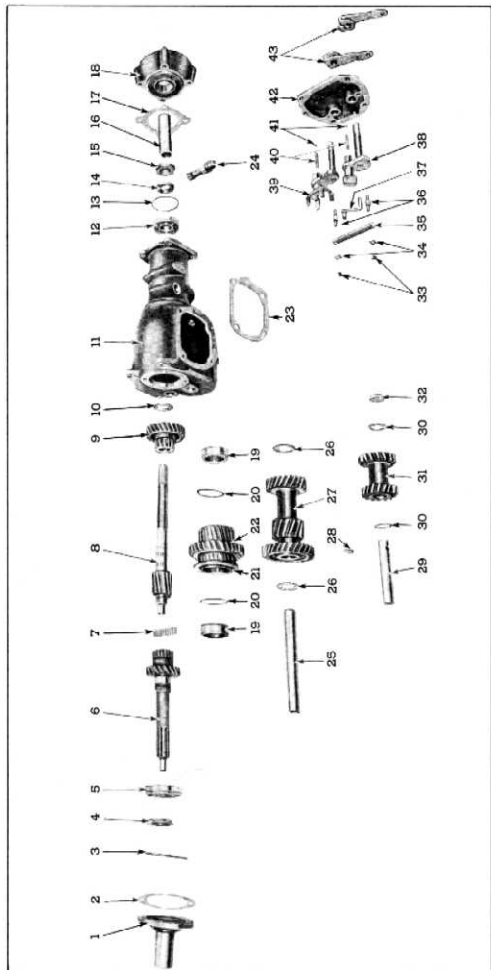

Fig. 9—Layout of Transmission Parts
15. Remove reverse idler gear and thrustwashers. Layout of the three-speed transmission parts is shown in Figure 9.